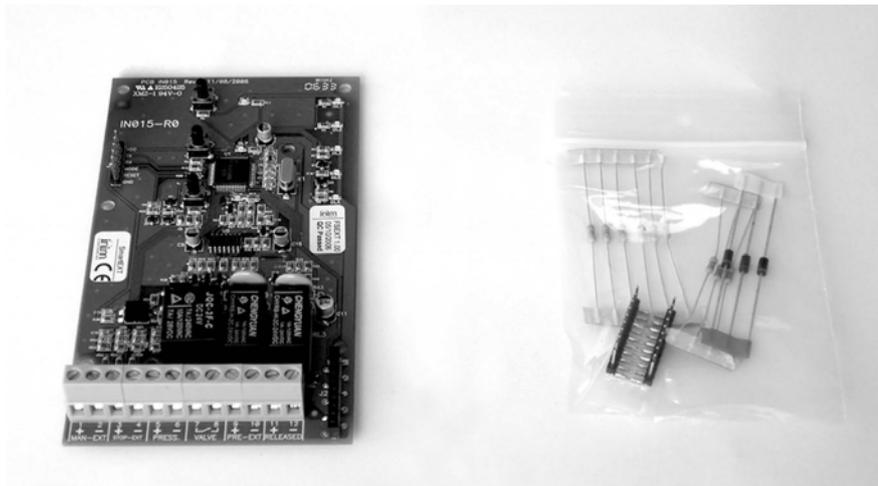

Figure 10 - Extinguishant module—in box
3. Move the SmartLine motherboard to the position indicated in Figure 10.